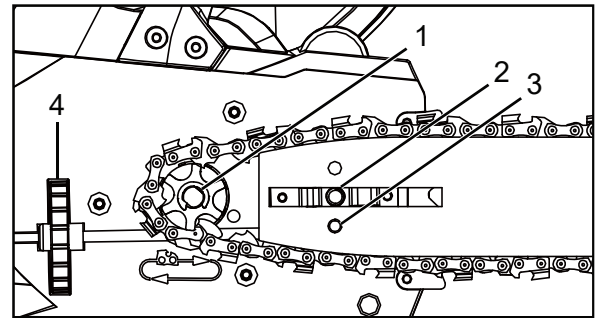
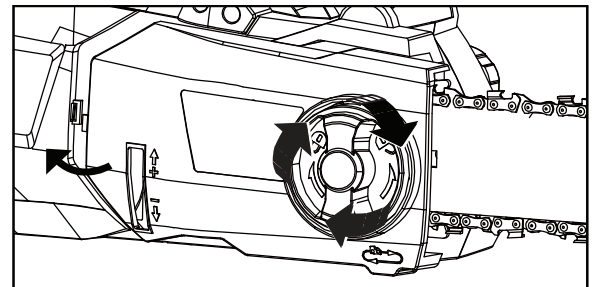

Figure 10 - Install chain
Figure 11 - Reinstall cover
4. Place the saw chain around the sprocket while lining up the slot in the guide bar with the internal bolt at the base of the saw and the chain tensioning pin in the guide bar’s pin hole (Figure 10). The chain tensioning pin may need adjustment to properly align with the hole in the guide bar. Use the chain tensioning wheel to adjust its location until it fits in the guide bar.
5. Turn the chain tensioning wheel to preliminarily tighten the guide bar enough that the chain stays in place (Figure 10). While holding the bar still, reinstall the cover. Make sure the tab properly line up with the slot on the body of the saw (Figure 11). Reinstall the side cover lock and turn it clockwise until it engages. Adjust the chain tension.